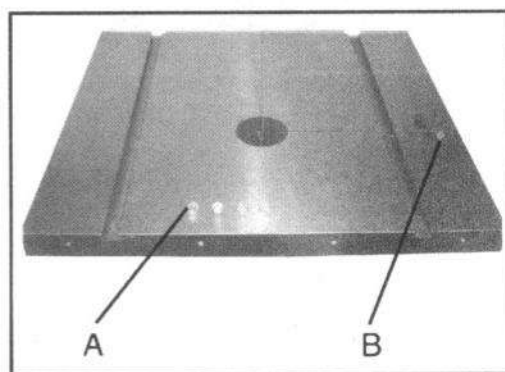

Fig.2
Mount the working table to trunnion using the Supplied (4) hex bolts and (4) washers (A—Fig.2).
Using Hex socket screw, bushing, washer and Wingnut (B—Fig.2) for the working table flatness.